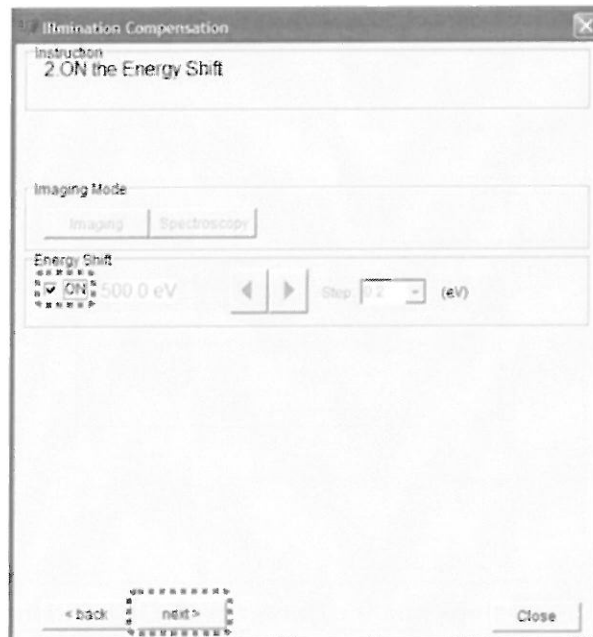

Fig. 5.50 Illumination Compensation - 2. On the Energy Shift
2. Follow "Instruction – 2. On the Energy Shift", and turn ON the Energy Shift (Fig. 5.50). After the selection, press **next** and move on.